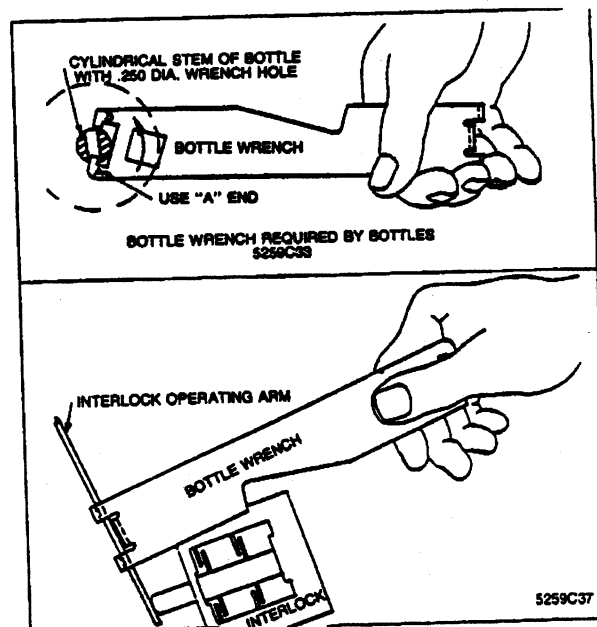

Fig. 2 Use of Bottle Wrench
Bottle wrench part no. 5259C10 in Figure 2 **MUST** be used for holding 5259C33 bottles if the shunt nut on the bottle stud is tightened or loosened, as when individual bottles are replaced.
1. Remove and set aside the shunt and cupwasher spring seat from the top of each bottle subassembly. On bottles marked 5259C21, the stud will unscrew from the top of the bottle. On bottles marked 5259C33, the nut will unscrew from the stud. Use bottle wrench (Figure 2) to hold the 5259C33 bottle while removing nut. If the bottle wrench is not used the bellows is likely to be damaged.